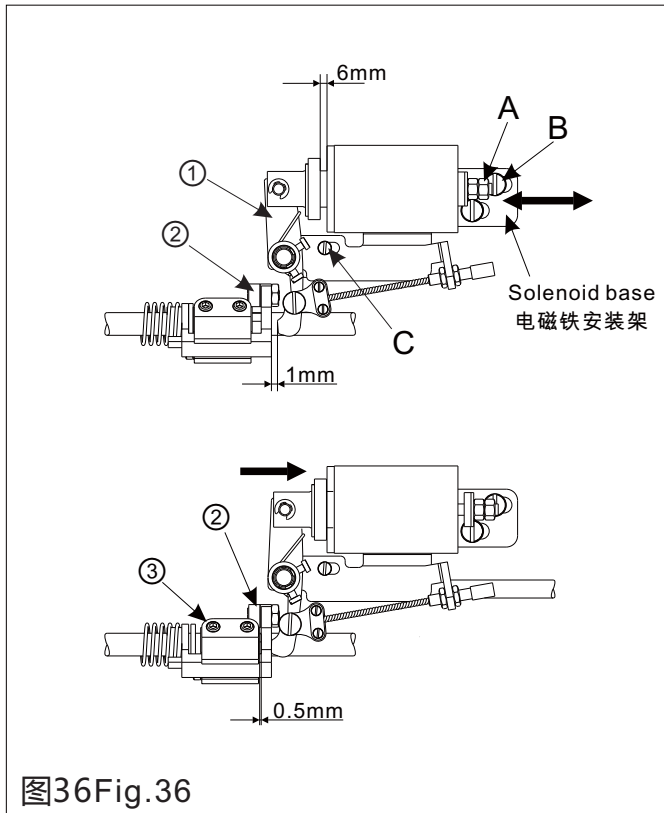

图36 Fig.36
1)Install the shaft ① on the machine bed first.
2)Install the trimmer cam lever assy on the shaft ① as illustrated.
3)Slightly turn the shaft ①, and install the positioning block ② as illustrated.
4.安装剪线电磁铁 (图36)
如需调整,可以如图36所示箭头方向移动剪线电磁铁。
4.Installing the trimming solenoid(Fig.36)